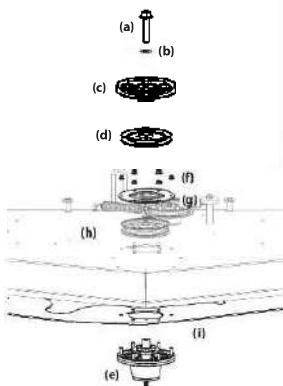

Figure 4-27
8. Remove the hex flange bolt (a) and flat washer (b) securing the drive pulley (c) and center spindle pulley (d) to the spindle assembly (e). See Figure 4-27.
9. Remove the six (6) flange lock nuts (f) securing the center (d) spindle assembly (e) and the support plates (g) to the deck shell (h). See Figure 4-27.